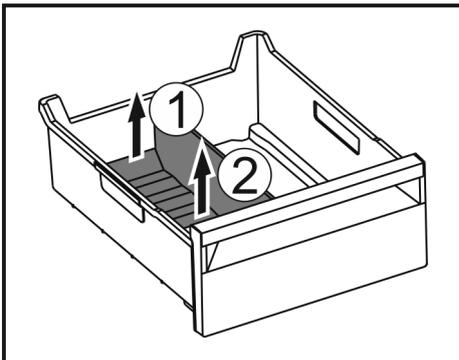

Fig. 70
- ▶ Lift the rear part of the ice compartment divider. Fig. 70 (1)
- ▶ Remove the ice compartment divider upwards. Fig. 70 (2)